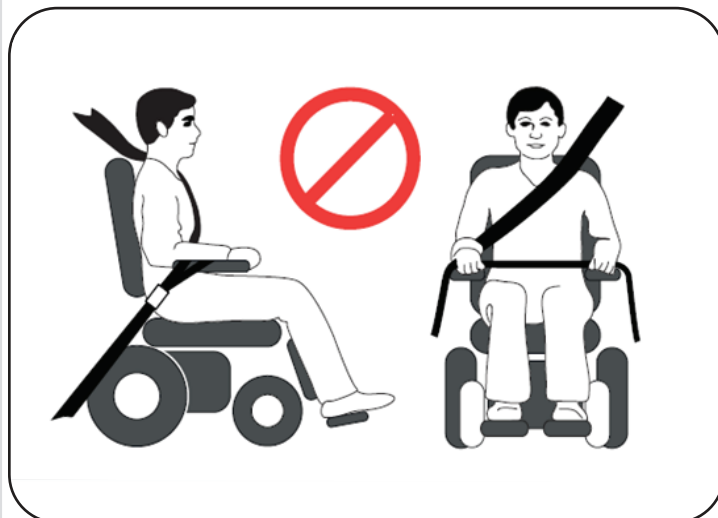

Figure 15. Incorrect Restraint
- Belt restraints must not be held away from the body by wheelchair components such as armrests or wheels. **See figure 15.**